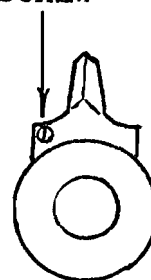

Figure 36
4. "Back off" the bridge adjusting screws on "D", "E", "F", and "A" (Figure 36).